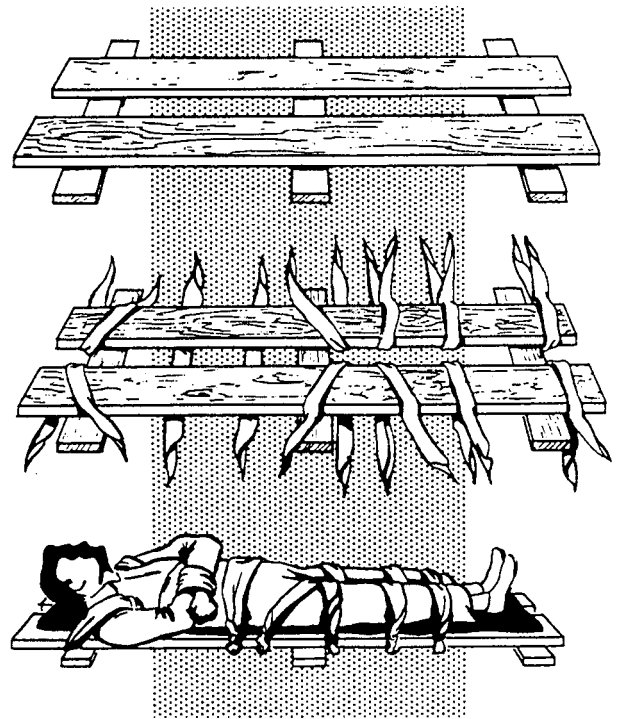

Figure 10-55.—Improvised frame for transporting victim with fractured spine.
3. No matter where the spine is broken, **USE A FIRM SUPPORT IN TRANSPORTING THE VICTIM**. Use a rigid stretcher, or use a door, shutter, wide board, or a frame similar to that shown in figure 10-55. Pad the support carefully, and put blankets both under and over the victim. Use cravat bandages or strips of cloth to fasten the victim firmly to the support.